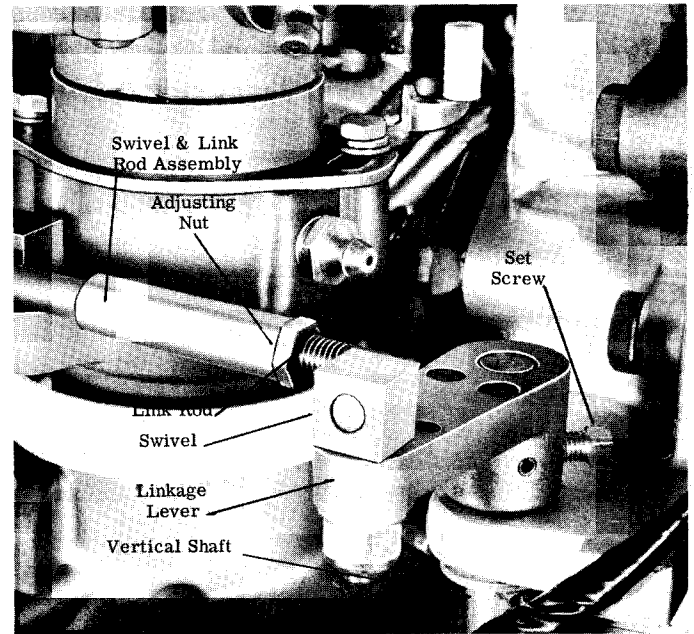

Figure 8. Vertical Shaft Adjustment
2. Adjust length of link between vertical shaft and magneto actuator to obtain a speed of 2400-to-3000 RPM. (Figure 8)